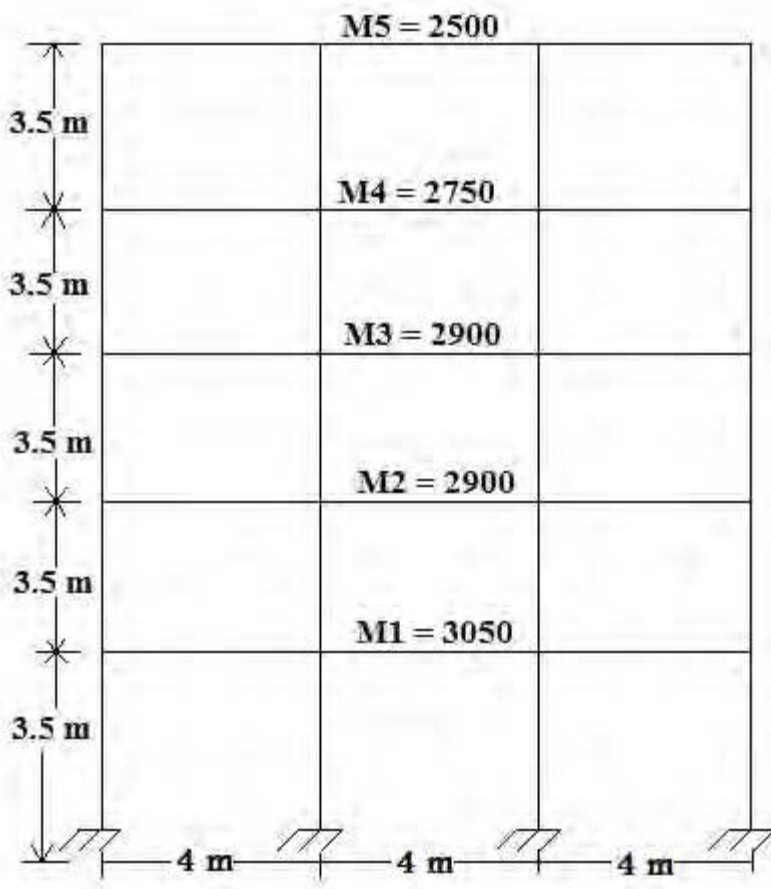

Figure 4:
7. A five-storey RC framed structure shown below figure 4 lies in seismic zone II. The height between the various floor levels is 3.5 m and having a total height of 17.5 m. The dead load and live load is lumped at respective floor levels. The soil below the foundation is assumed to be soft soil. The building is intended to be used as a school building. Find the total base shear as per IS 1893:2002. Also distribute the base shear along the height of the building as per IS 1893:2002 recommendations. The plan dimension of the building is 12 m X 24 m.